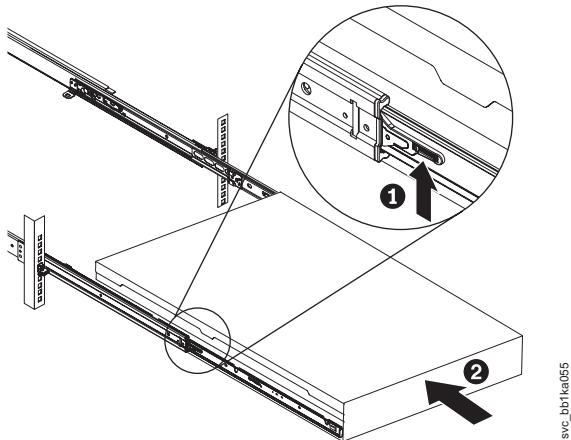

Figure 291. Raising the SAN Volume Controller 2145-CF8 or 2145-CG8 locking levers of the slide rails of the rack
17. Lift the locking levers ( **1** in Figure 291) on the slide rails and push the server **2** all the way into the rack until it clicks into place.